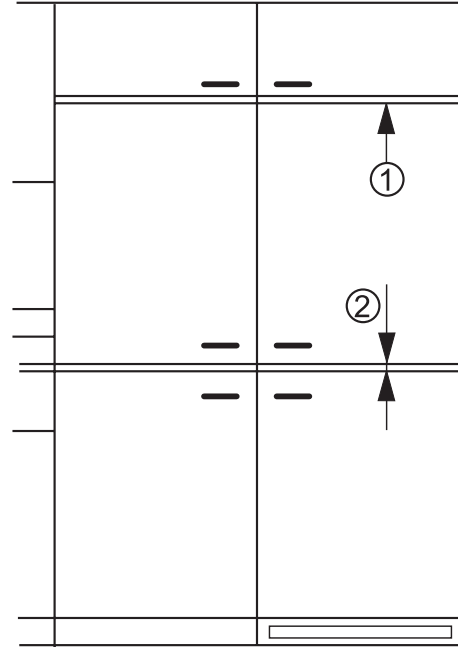

Figure 8
- The top edge of the upper door (**Fig. 8, 1**) and lower door (**Fig. 8, 2**) should be even with the doors of adjoining cabinet(s), if any.
- **The position of the joint between the kitchen cabinet doors must be level with the position of the joint between the appliance doors (Fig. 8, 2).**